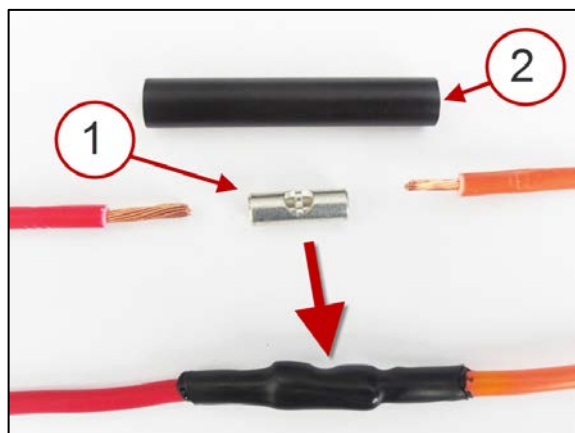

FIGURE 1
2. Connect one wire of the fuse holder with the red wire supplied in the kit. Use butt splice (item 1, Figure 1). Solder the wires with the butt splice.
3. Insert a 2" long shrink tubing (item 2, Figure 1) over the previous connection and heat to shrink as shown on Figure 1.